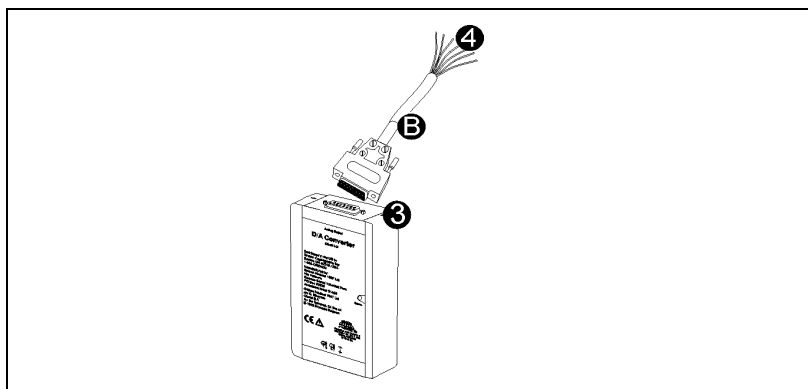

Figure 41. Connecting the D/A Converter to the Analog Recording Device
1. Insert the 15 pin end of the D/A cable (B) into the D/A Converter's analog output port (3 in Figure 41).
2. On the other end of the D/A Converter cable, select each of the desired output channels (color coded wires, 4 in Figure 41), and, using a standard communication cable with 3.5 mm (1/8 in) mono audio plug, attach each connector to the relevant output channel on the analog device. (One end of the cable should have a 3.5 mm (1/8 in) mono audio plug for attaching to the D/A Converter cable; the other end should have the appropriate connector for your analog device.) See Table 7. D/A Converter Output Channels on page 56 for output channels.